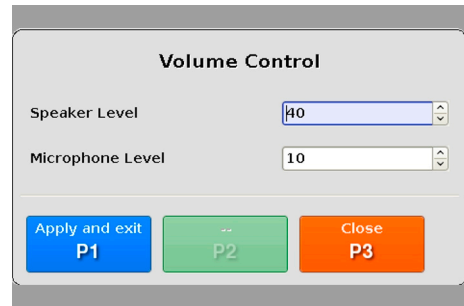

Fig. 46: “Volume Control” dialog
- ▷ Select the “Volume Control” menu item by pressing **P1**. The “Volume Control” screen (see Fig. 46) is displayed.
Fig. 46 shows the “Volume Control” dialog.